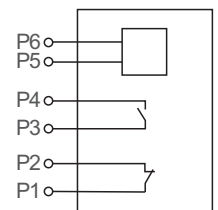

Fig1.
4.4.3 Leakage alarming module(RDM1L-125L,250L do not have it.) Specification: P5-P6 port for input power-source AC50/60Hz,230V or 400V. P1-P2, P3-P4 port for capacity is AC230V 5A, see Fig1
2. Circuit breaker with leakage alarming module. when the leakage alarming is happening, the leakage protection module would function after resetting the reset button of Module II. Fig1.